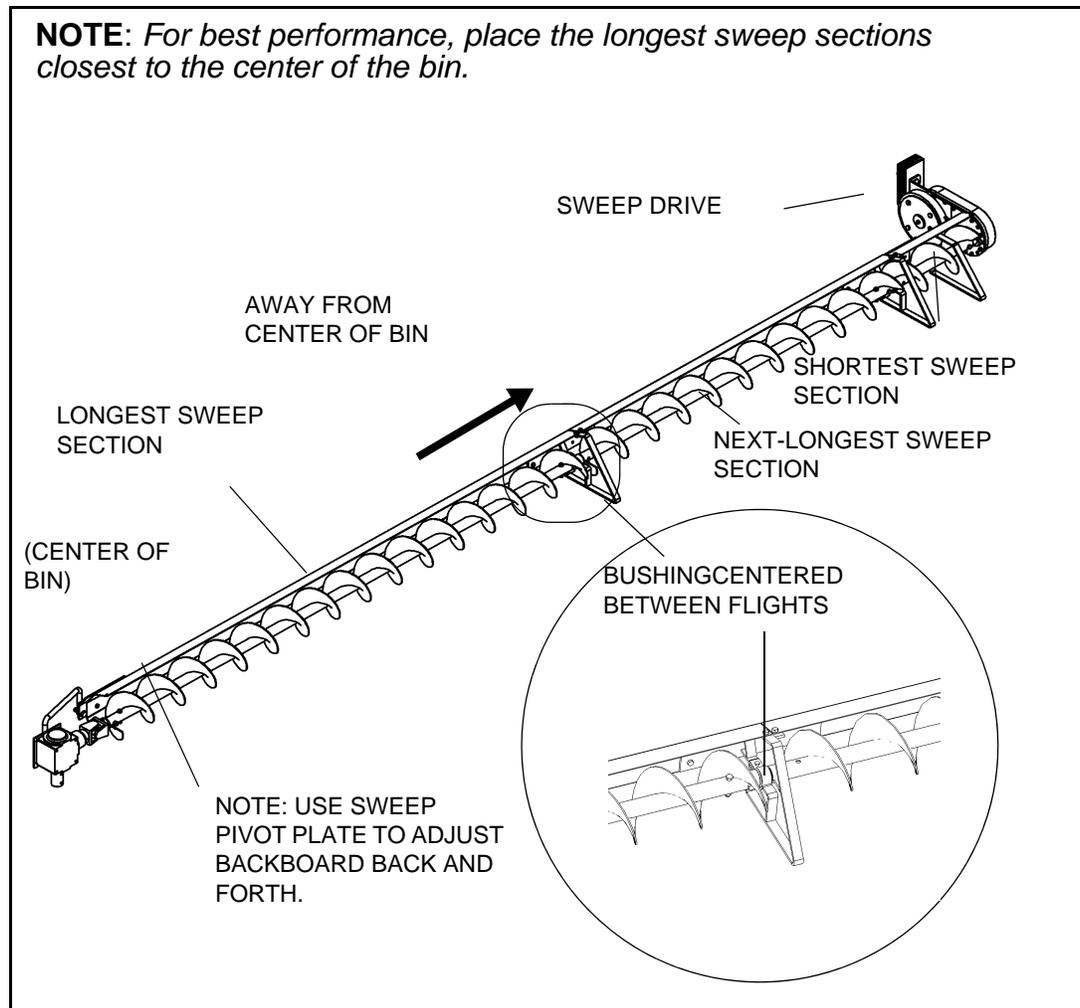

Figure 3.18
1. Before beginning with sweep assembly, refer to Figure 3.18. Always begin with longest sweep section at center of the bin and work your way out.
Note: Inspect the sweep section as a whole, and ensure that the plastic bushings (between sweep sections) are not interfering with the sweep flighting. Use the adjustable slots on the sweep pivot plate and on the upper gearbox (Figure 3.18) to ideally position the backboard and plastic bushing mounts.